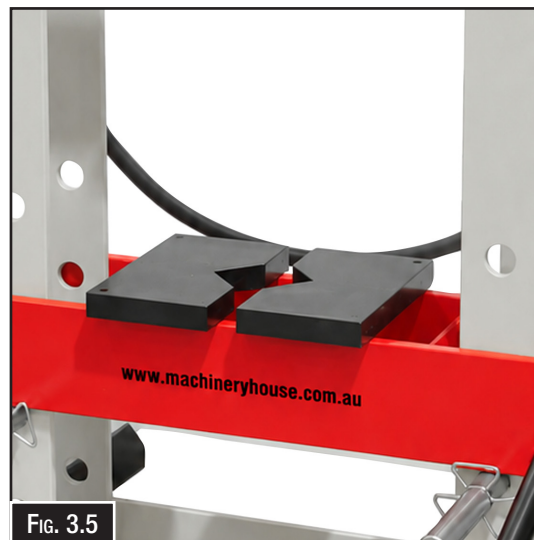

FIG. 3.5
2. Before operating the bench press make sure all hardware is fully tighten. (Fig. 3.5)